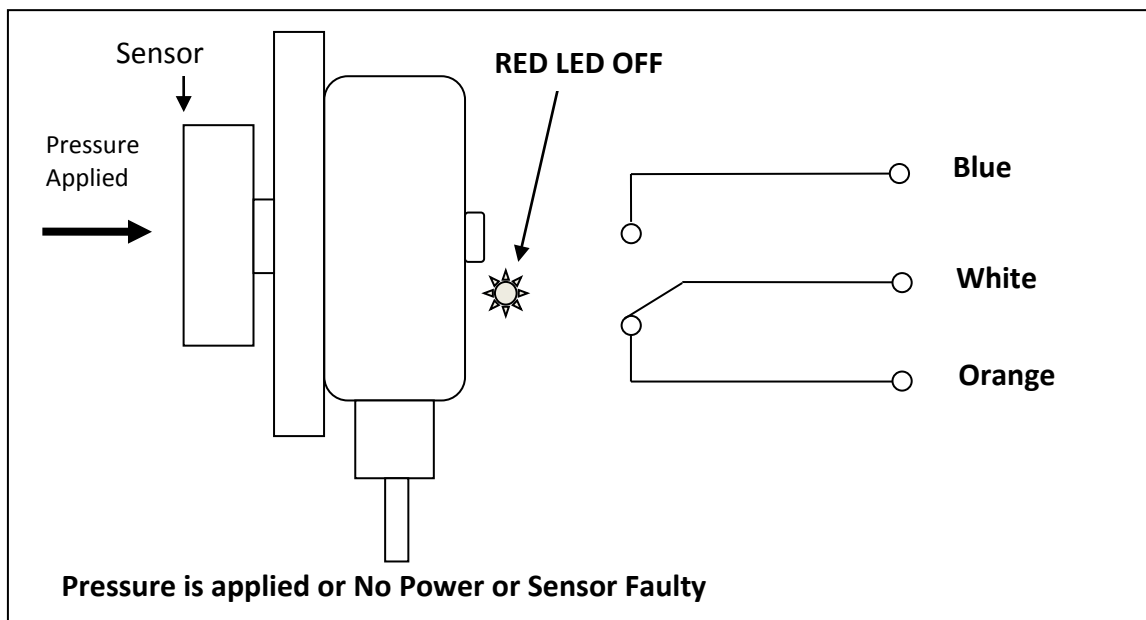

Figure 9 - TouchSwitch in Alarm Condition
This is an electronic limit switch. The sensor reacts to pressure applied to the sensor face. If the **pressure is higher than 3.6kg**, then the sensor switches the relay to an **alarm condition** (see Figure 10). If the sensor is correctly powered, working and no pressure is applied to the sensor face then the sensor will energize the relay and indicate the OK state by a lit up LED (see Figure 9).
- 1) Observe that the red output LED on the sensor housing (see Figure 9) is ON and the belt or pulley are not touching the sensor